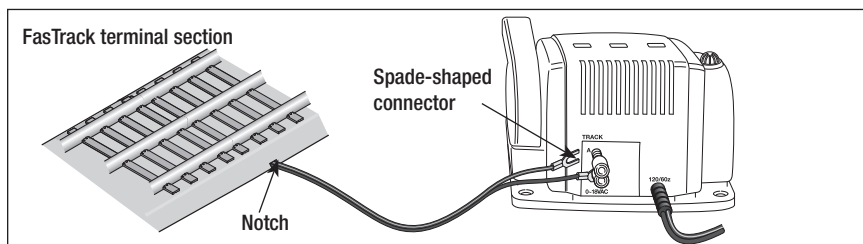

Figure 3. Controller connections
1. **Feed the wires through the notch in the FasTrack terminal section.** Refer to Figure 3.